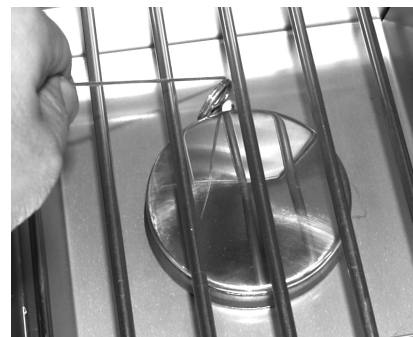

Fig. 25-2 Manual lighting
2. Insert either a burning long-barrel butane lighter, a burning long-stem match, or a burning match held by a wire extension holder through the cooking grid opening to the burner (Fig. 25-2). Hold the flame against the edge of the burner.
4. If the burner does not light within five (5) seconds of turning the control knob, **immediately depress the knob and turn the valve to OFF**. **WAIT FIVE (5) MINUTES** before repeating steps 2 through 4 of the **MANUAL LIGHTING** instructions.